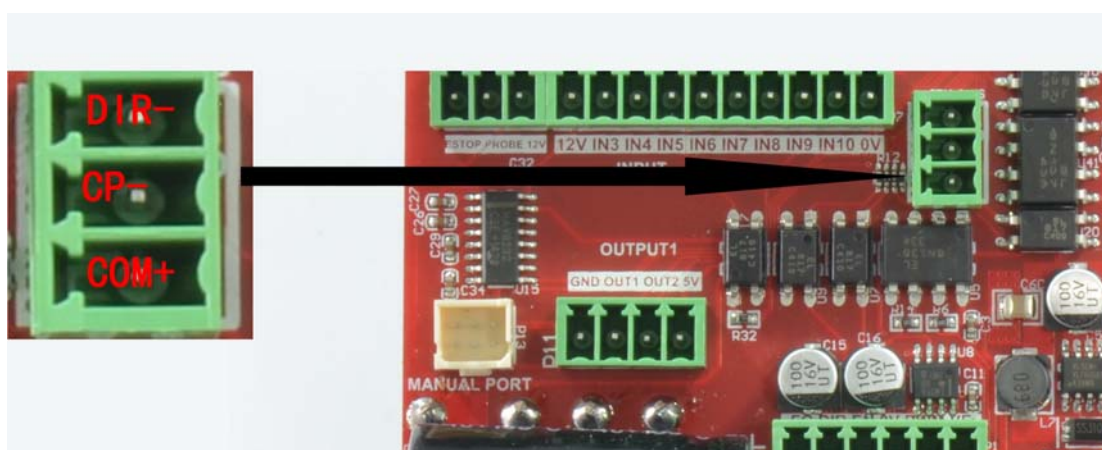

Figure2-7. B axis' definition
- O)B axis control signal port. This port is B axis control signal port. It can connect to B axis stepper motor driver. Definition see as Figure 2-7.Common anode. COM+ connect to STEP+ and DIR+ of driver, CP- connect to STEP- of driver, DIR- connect to DIR- of river.